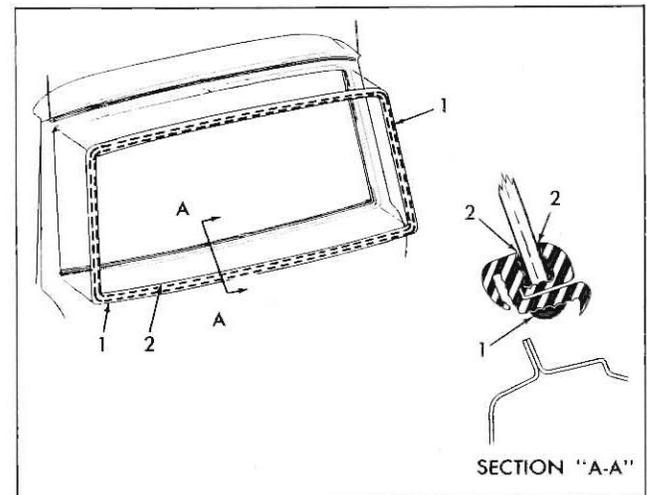

Fig. 9—Back Door Window Sealing
4. For full length of weatherstrip, apply a continuous ribbon of medium-bodied sealer (approximately $\frac{1}{4}$ inch thick to base of rubber channel, as indicated at "1" in Section "A-A", of Fig. 9.
7. Using a pressure type applicator, apply weatherstrip adhesive (black) between rubber channel and glass on inside and outside of glass, as indicated at "2" in Fig. 9. Application